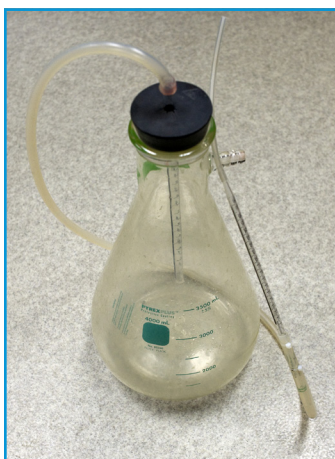

Figure 5-3: Example vacuum flask set up
2. Securely place the single-hole stopper into the mouth of the vacuum flask. Connect the flex tube to the stopper and the plastic pipette. Connect the hose barb to the vacuum source. See Figure 5-3.